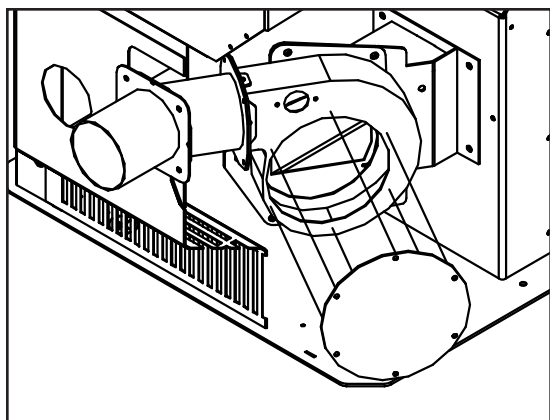

Figure 17: Exterior Blower Kit.
1. Remove the left hand cabinet side by removing the two (2) screws down the front. Loosen the three screws on the back of the cabinet side and remove panel.
2. Loosen the six (6) screws that hold the back grill in place. Lift the back grill off the screws.
3. Disconnect the Exhaust blower wires from the wire harness. Remove the exhaust blower motor from the housing; six (6) screws. Cover hole in housing with cover plate provided (see Figure 17).
5. Install the exhaust blower housing box into the pipe placed through the wall thimble, seal with high temperature silicone. Fasten the box to the wall with (4) four screws, seal edges of box to wall with clear silicone.